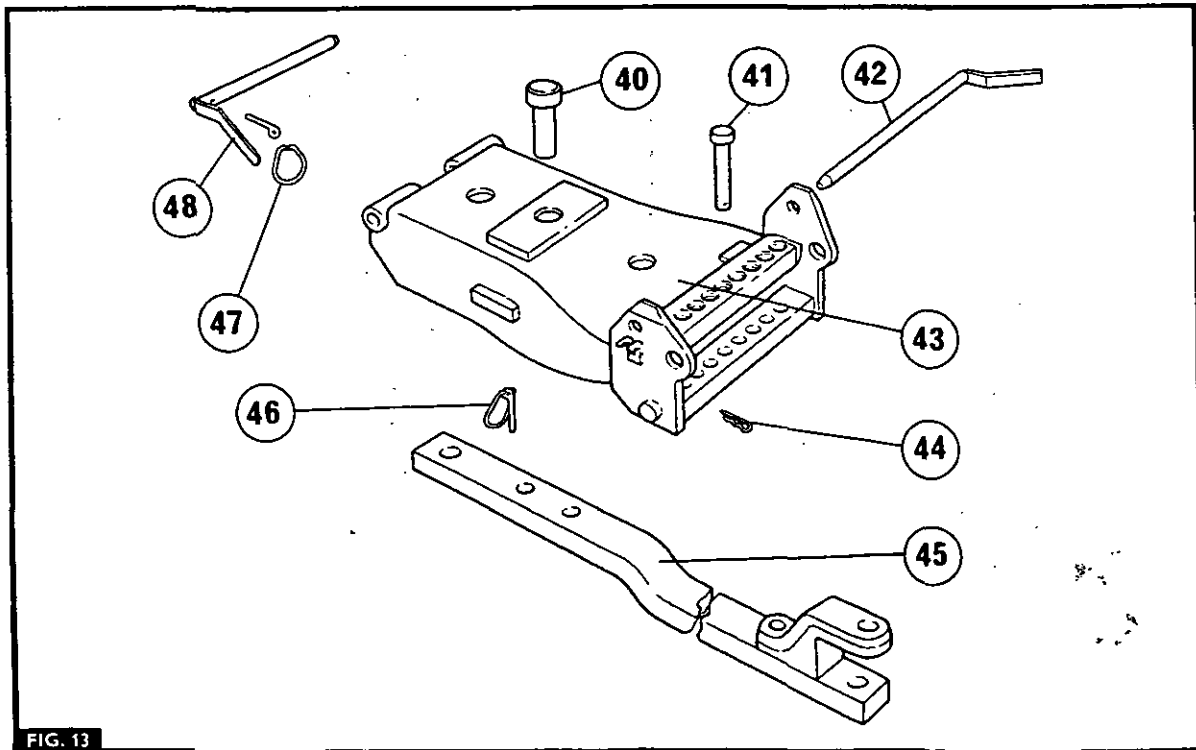

FIG. 13
2. Fig. 13. Slide the drawbar assembly (45) into the mounting frame (43) and fit the drawbar pin (40), then fit the two locating pins (41) securing them with the hairpins (44).
3. Place the mounting frame and drawbar assembly on a jack and raise it into position, secure it at the front with the support pin (48) and linch pin (47) and at the rear with the other support pin (42) and linch pin (46). Remove the jack.